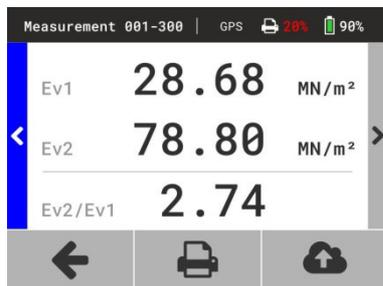

Figure 18
- ⇒ The values of E_{V1} , E_{V2} and the ratio E_{V2}/E_{V1} are displayed on the screen (Figure 18).